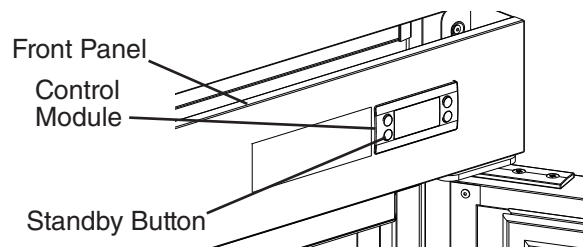

Fig. 71
- 2) If the cabinet temperature is not displayed on the control module, press and hold the standby button on the control module until "ON" appears in the display. See Fig. 71. Factory default is "ON".